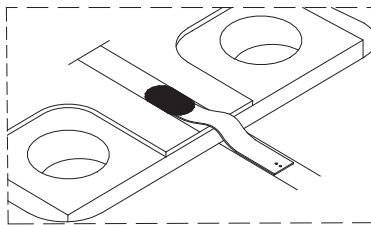

Figure 4.
2. The second method uses a pure silver ribbon for the interface (Figure 4). The mixer traces is reflowed with SN63 solder. The silver ribbon is then soldered onto the mixer trace, a small stress relief is formed, and the other end of the silver ribbon is gap-welded to the gold trace.